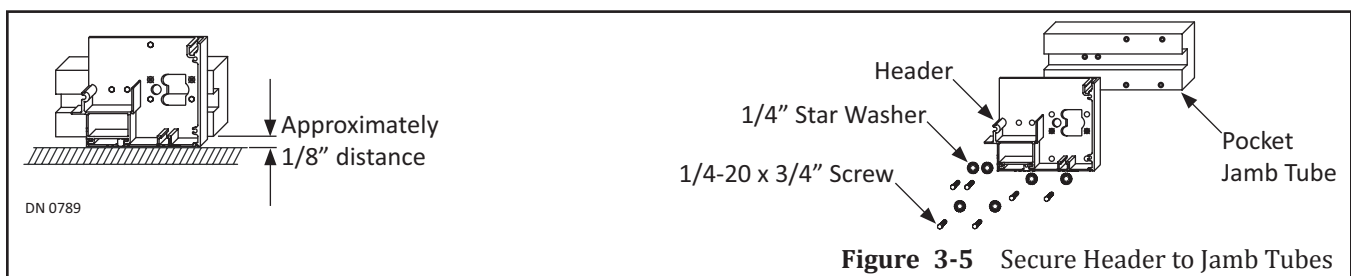

Figure 3-5 Secure Header to Jamb Tubes
8. Measure to ensure each side of Jamb Tube facing the floor is lifted 1/8 inch from the floor (once secured to Jamb Tube). Please see Figure 3-5.